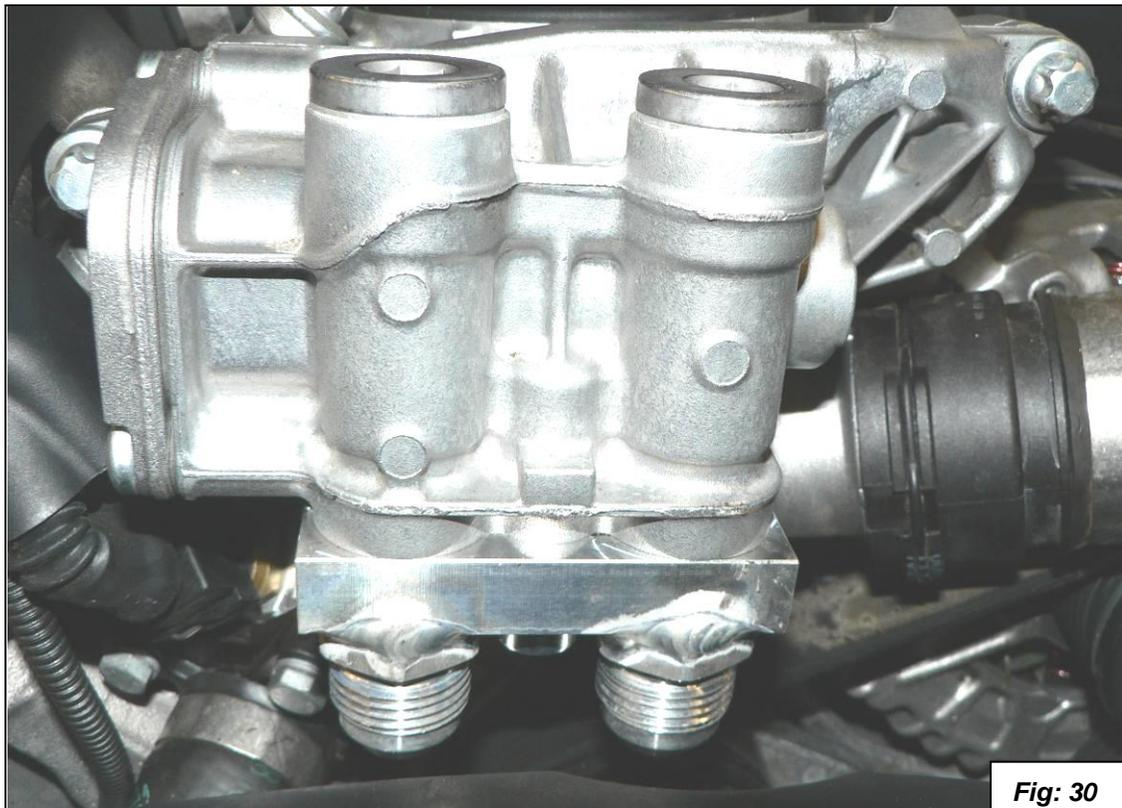

Fig: 30
36. Install the oil line adapter block onto the oil filter thermostat housing. Make sure the O-Rings doesn't get pinched as you install the block. Torque the bolt to 20Nm (15ft-lbs.). See figure 30.